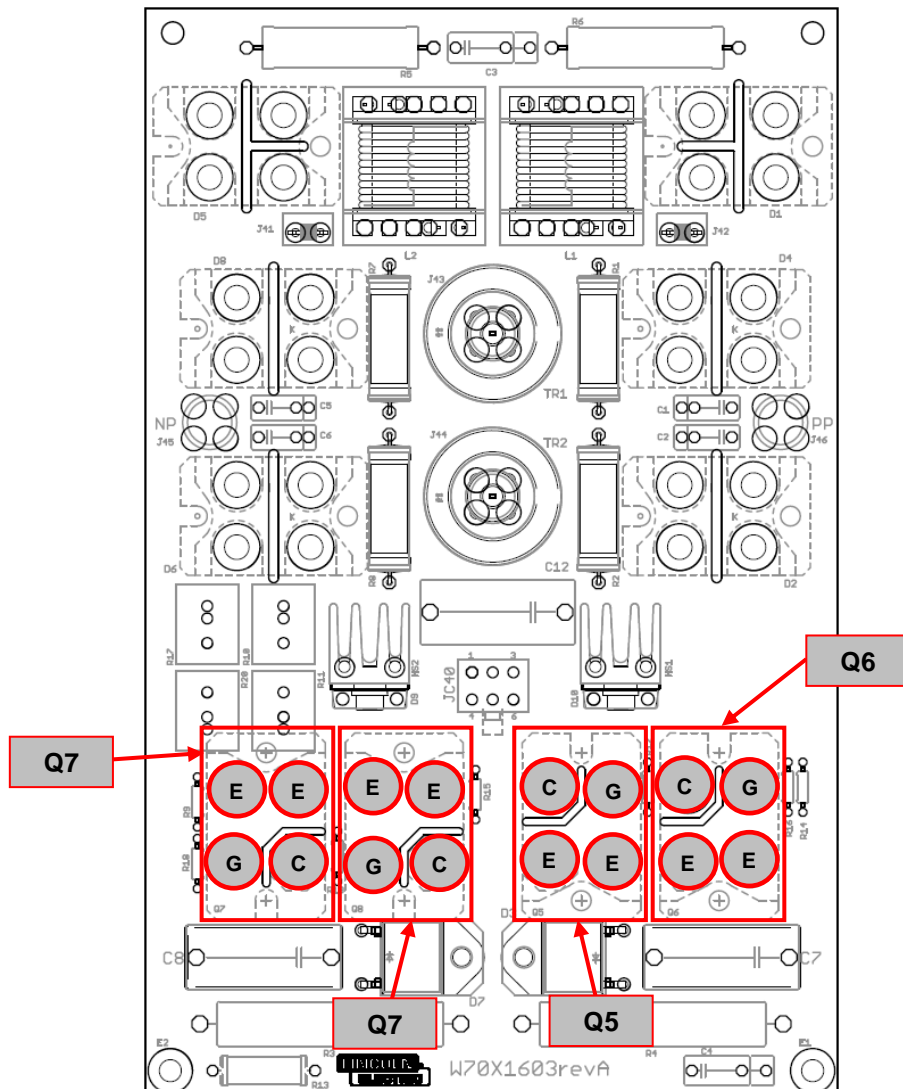

Figure 10 – OUTPUT POWER IGBTs location
7. Check each IGBT module (Q5, Q6, Q7, Q8), with multimeter in diode test mode, following the test table 10, below. See Figure 10 for Test Point locations.